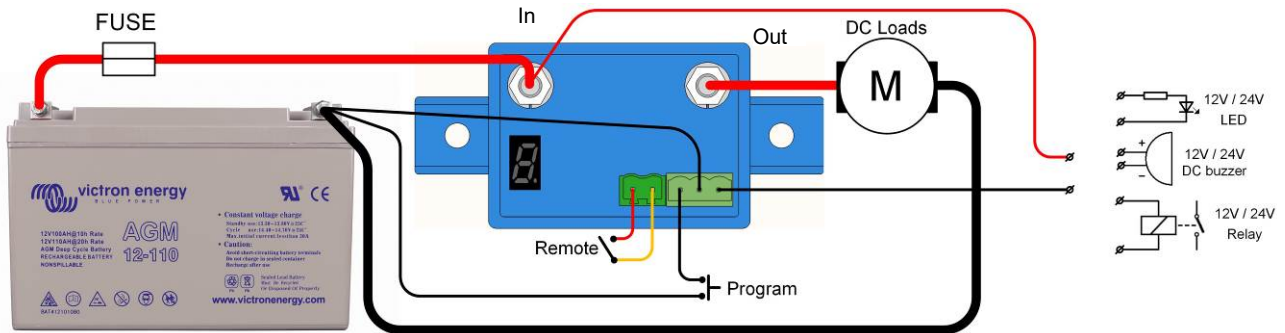

Figure 1: Connection diagram of the BP-65
- The BatteryProtect (BP) must be installed in a well-ventilated area and preferably close (max 50 cm) to the battery (but, due to possible corrosive gasses not above the battery!). **Voltage drop over a long or undersized cable between the battery plus and the BP may result in a short circuit alarm when starting-up the load, or unexpected shutdown.**
- A remote on-off switch can be connected to the two pole connector (see figure 1) or between pin 2-1 of the two pole connector and the battery plus.
- A buzzer, LED or relay can be connected between the alarm output and the battery plus (see figure 1). Maximum load on the alarm output: 50 mA (short circuit proof).